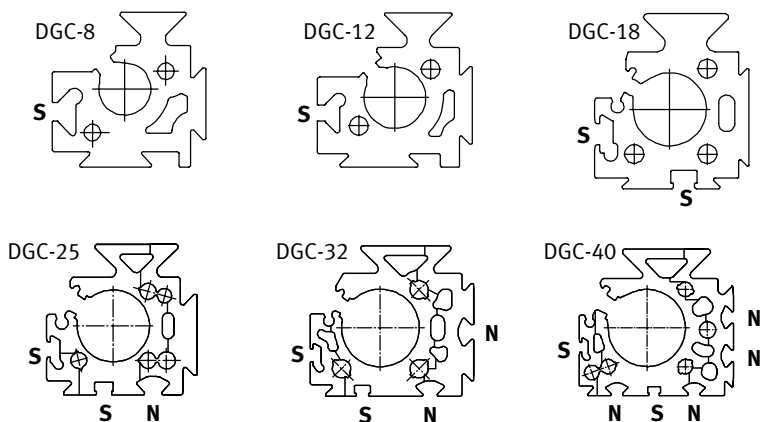

Fig. 22
- Use grooves S from Fig. 22 for fastening the proximity switches.
- Use the grooves as per Fig. 22 for fastening external accessories.